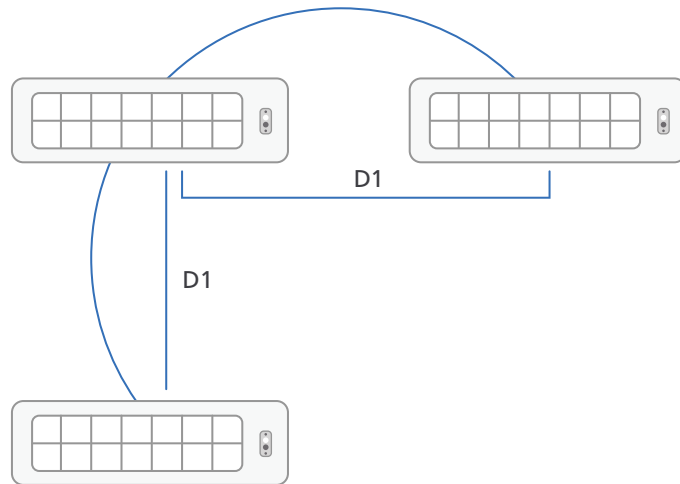

Figure 1. Application of wireless luminaires in an open space
- In ceilings (recessed luminaires or nodes, for example in offices) the distance (D1) between two nodes is maximum 10 m (33 ft). See figure 1.